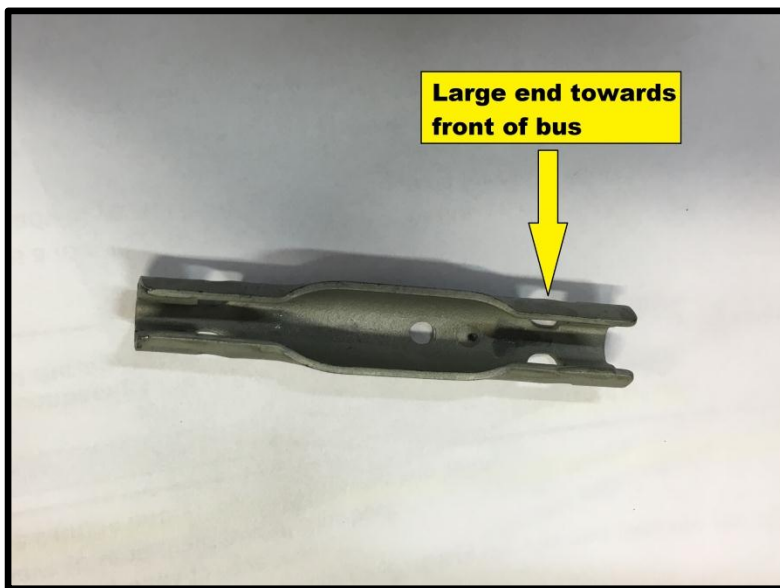

FIG. 4-1
7. Take note with new connector that wide end of connector clip goes to front of bus. Refer to FIG. 4-1.